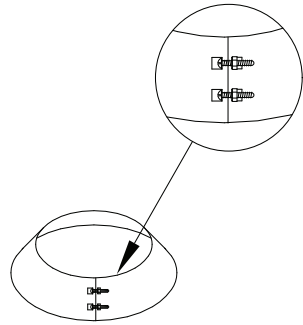

Figure 11
- e. Wrap the Collar of the Attic Insulation Shield around the chimney and fasten it loosely. Slide the Collar down to meet the Attic Insulation Shield. Tighten the bolts to secure the Collar in place (*Fig 11*).